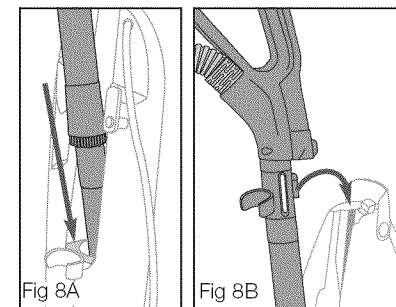

Fig 8A
- Place wand into opening on back of vacuum (Fig. 8A).